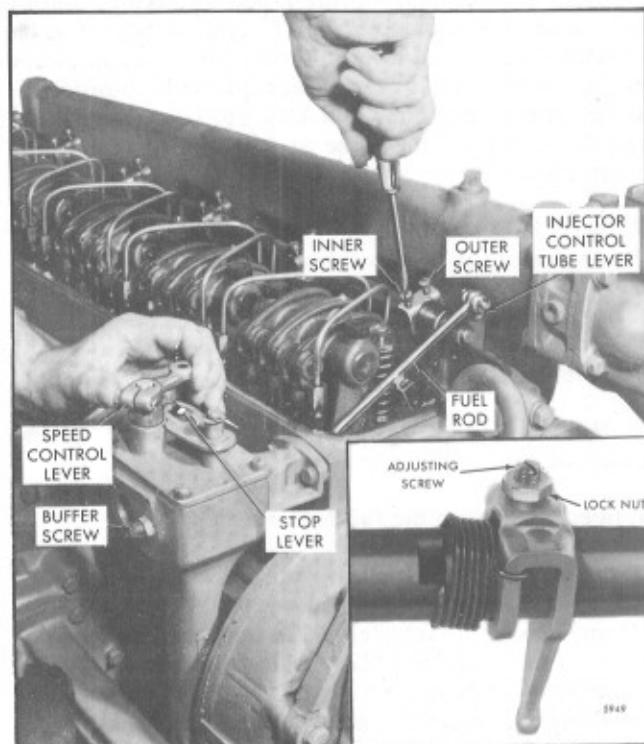

Fig. 3 - Positioning No. 1 Injector Rack Control Lever
5. Remove the fuel rod from the differential lever and the injector control tube lever (Fig. 3).
Adjust the No. 1 injector rack control lever (Fig. 3) first to establish a guide for adjusting the remaining injector rack control levers.
- b. On the two screw injector control tubes turn the inner adjusting screw of the No. 1 injector rack control lever down (Fig. 3) until a slight movement in the control tube lever is observed or a step-up in effort to turn the screwdriver is noted. This will place the No. 1 injector rack in the full-fuel position. Turn down the the outer adjusting screw until it bottoms lightly on the injector control tube. Then alternately tighten both the inner and outer adjusting screws.